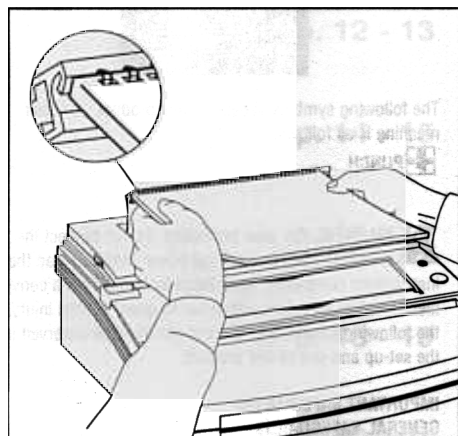

Figure 4
3. Place your punched pages face downward onto the small loops of the wire element. Then place your front and back covers face-to-face against each other. Place the covers onto the wire element with the back cover first and the inside of the front cover facing upward. This step ensures that after crimping the seam of the wire element will be hidden between the back cover and last page (figure 4).